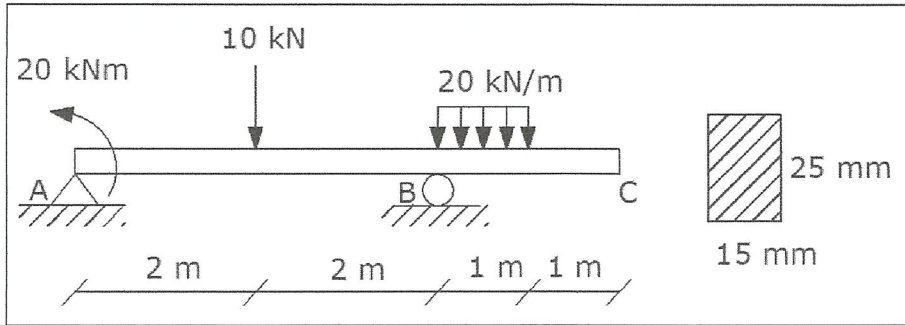

Figure Q5
**Q5** A beam with cross section 25mm x 15mm is subjected to the corresponding loads as shown in **Figure Q5**.